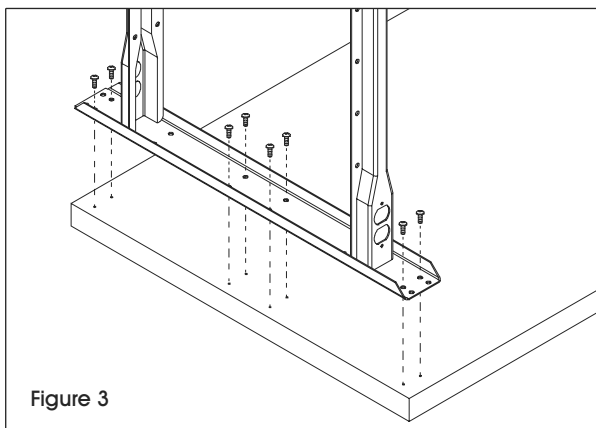

Figure 3
- Using 24 wood screws, attach legs to the under side of the top (5) through pre-drilled holes. (See Figure 3)